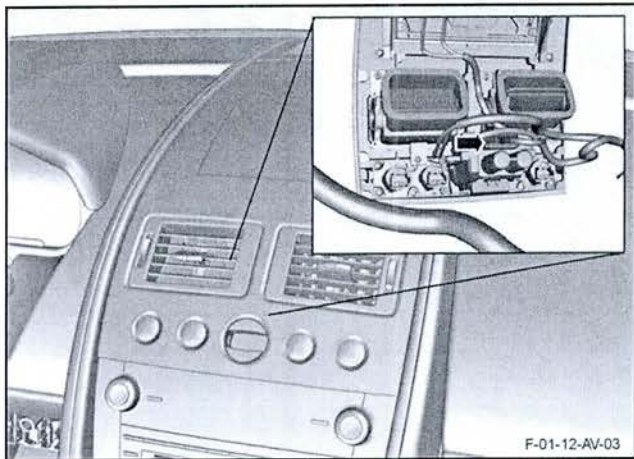

Figure 14
24. Connect the electrical connector to the ignition switch module (refer to Figure 14).